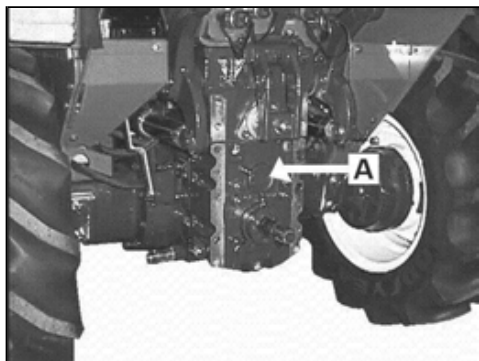

Fig.8
- Demount the rear cover **A** of the PTO, as shown in Fig.8;